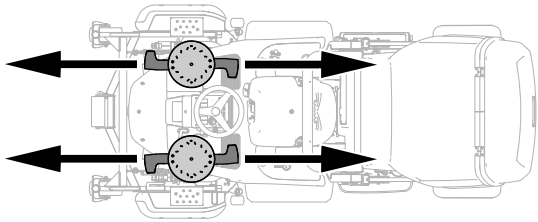

**Figure 124**
1. Adjust the height of cut to the 75 mm (3 inches) position (Figure 124).